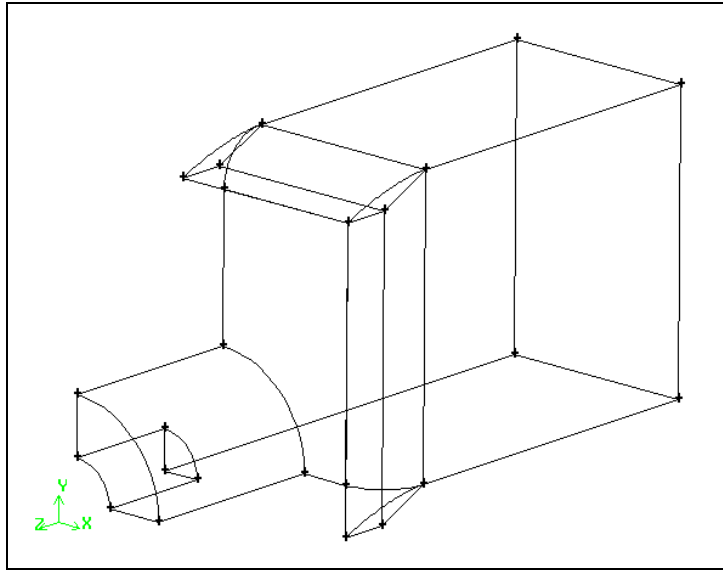

Figure 4-20: Face swept parallel to an edge to form a second volume
*The volume created by the sweep is shown in Figure 4-20.*